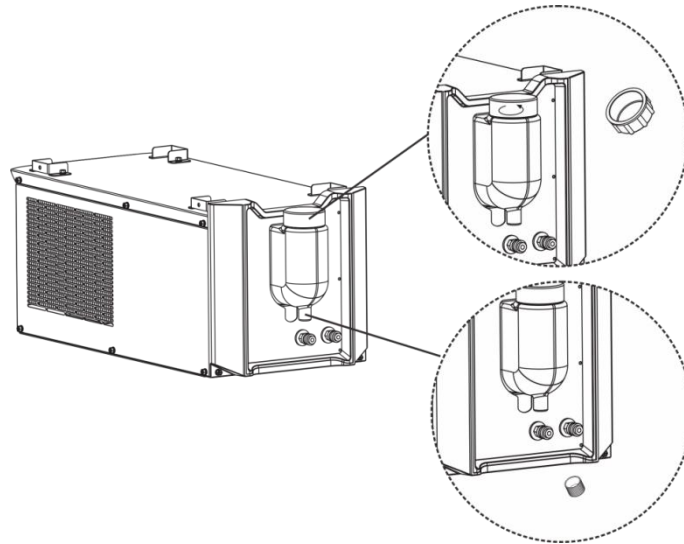

Figure 3-2 Water Injection/Drainage Diagram
2. When draining, open the lid from the bottom of water cooler. After draining, tighten it, as shown in figure 3-2.